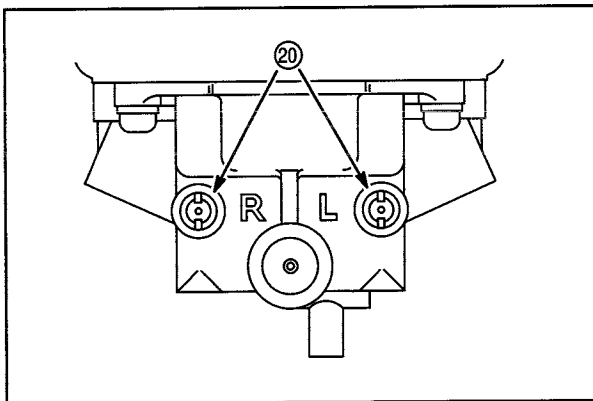

Fig. 73
12. Install fixed main jets (20), **Fig. 73**, plugs and washers.